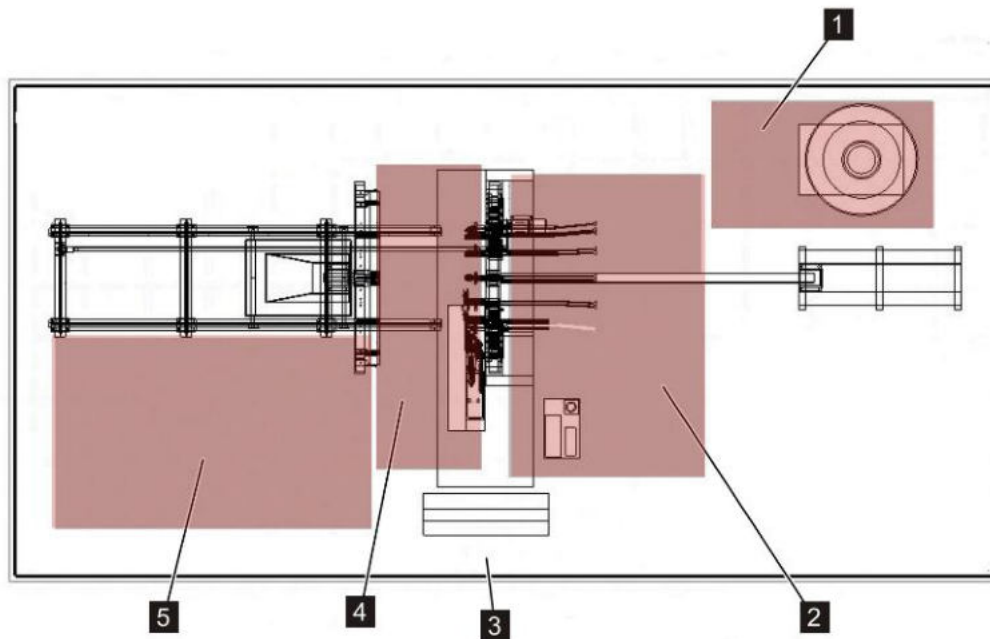

Fig. 7: Working and hazardous areas
- Placement of circumferential wire coils (Fig. 7/1)
- Placement of longitudinal wires (Fig. 7/2)
- Switching the automatic system on/off (Fig. 7/3)
- Selection of work program (Fig. 7/3)
- Parameter input (Fig. 7/3)
- Entering new programs (Fig. 7/3)
- Program management (Fig. 7/3)
- Supervision of production (Fig. 7/3)
- Laying of circumferential wire under the welding roller (Fig. 7/4)
- Inserting of circumferential wire (Fig. 7/4)
- Cutting the circumferential wire after manufacturing each cage (Fig. 7/4)
- Removing the cages from the machine (Fig. 7/5)
The hazardous areas are highlighted in red in Fig. 7 highlighted in red.
- Environment of the circumferential wire reel stand (Fig. 7/1) during placement work
- Surroundings of the longitudinal wire holding tray (Fig. 7/2) during placement work
- Environment of the electrode support wheel (Fig. 7/2 + 4) during placement and setup work, troubleshooting, maintenance and repair work.
- Close vicinity of the electrode support wheel (Fig. 7/4 + 5) (flying sparks)
- Cage removal zone during cage removal (Fig. 7/5)